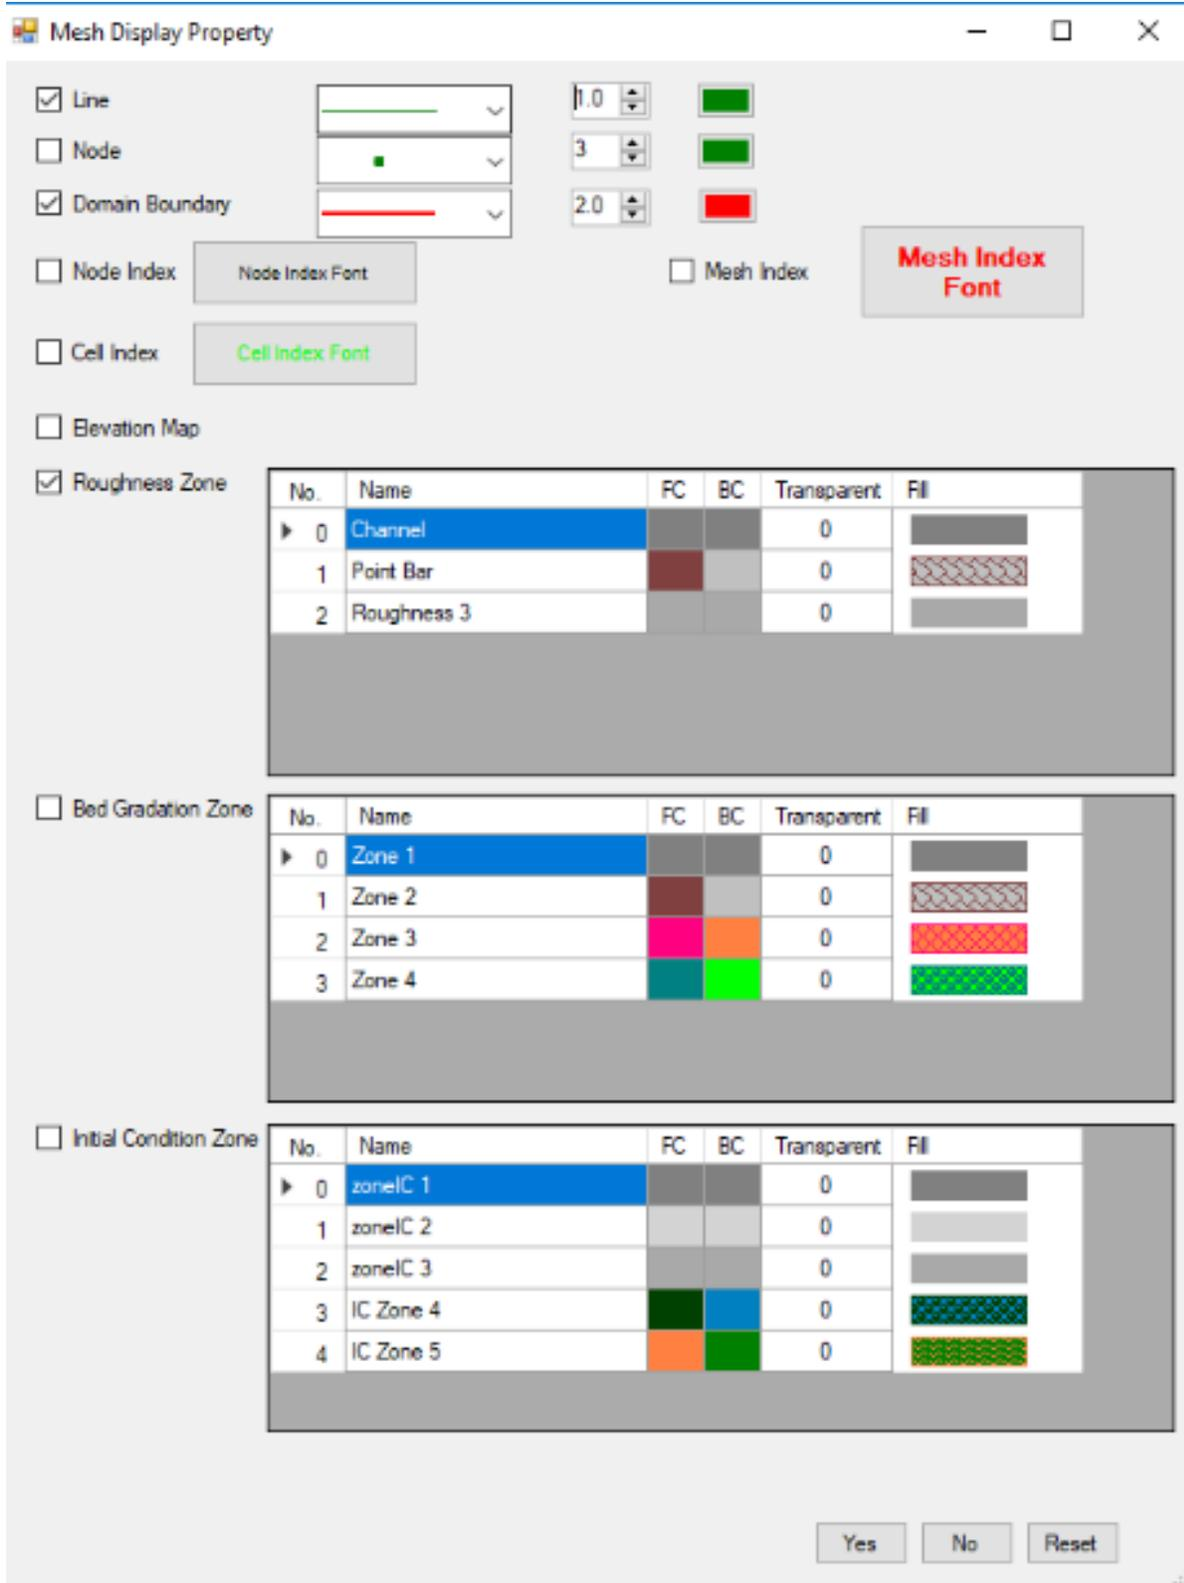

Figure 3-21. Mesh format.
1. Click the set display button . A form will appear (Figure 3-21).